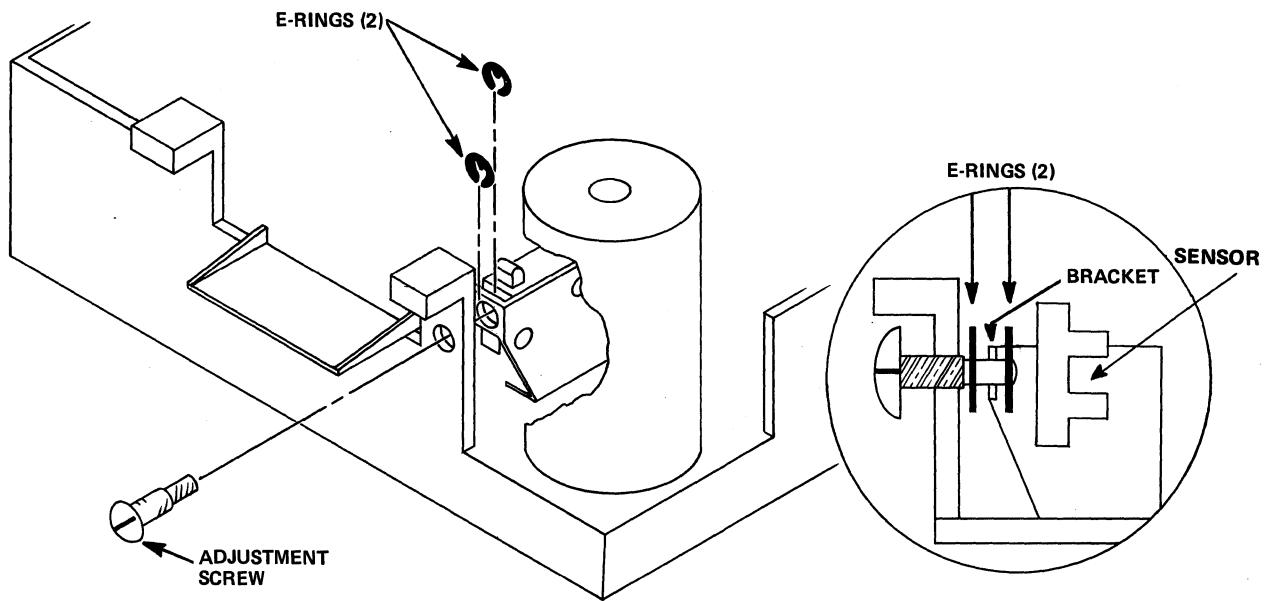

Figure 5-21
- 5.11.3 With a flat blade screwdriver, remove the E-ring from the Track 00 Sensor Assembly's adjustment screw located on the inside of the disk drive between the switch and its bracket (see Figure 5-21).